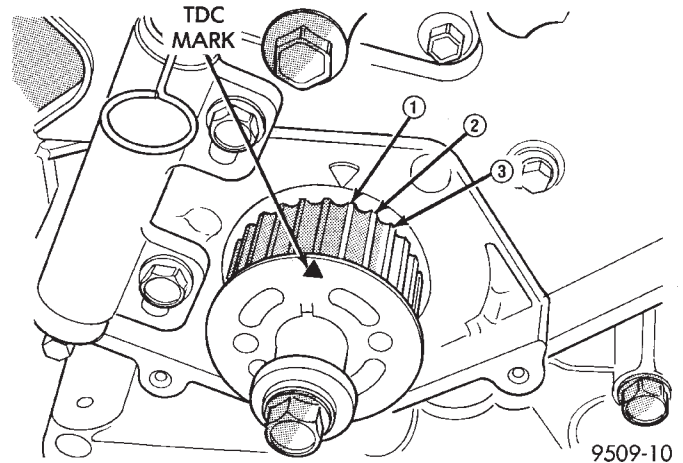

Fig. 48 Crankshaft Sprocket Timing
(4) Set crankshaft sprocket to TDC by aligning the sprocket with the arrow on the oil pump housing, then back off to 3 notches before TDC (Fig. 48).